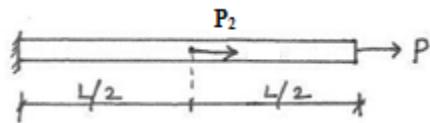

Figure 1.3
- (f) Repeat (a) – (c) for the bar shown in Figure 1.3.